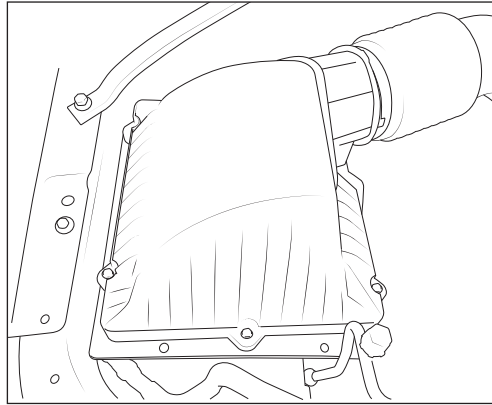

Figure 16
10. With the new lower intake system installed, the filter and factory upper airbox lid can be reinstalled using the supplier 1.25" slotted hex head screws (fig.16).